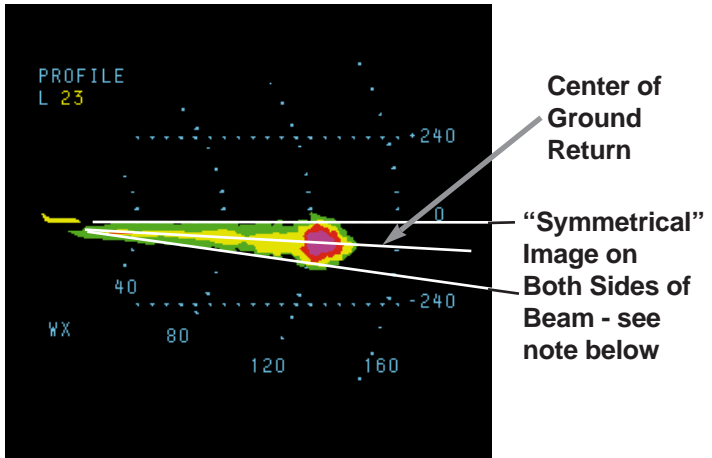

**Figure 5: Vertical Profile View
If you have completed the above operations in flight on a sunny day as suggested, you have experienced the simple operation of Vertical Profile and observed display of ground paint similar to that shown in Figure 5. The understanding of this very basic presentation is an important key in interpreting low level weather.
To improve your use and understanding of Vertical Profile, adjust the tilt angle to ground map a city or mountain. Use the TRK buttons to select the ground map target, and activate Vertical Profile by pressing the VP button. Depending on range, altitude and magnitude of the ground mapped target, the display should now resemble Figure 6. Note the differences between Figure 5 and 6. However, at the location of the ground mapped target the image is still symmetrical. The symmetrical display is key in distinguishing the differences between ground returns (ground, cities, and mountains) and low level weather.
Figures 5 through 10A illustrate normal horizontal scan and Vertical Profile scan examples of various returns from different weather patterns encountered during actual flights with the RDR 2000.
**Figure 5:** 40 nm range selected showing normal ground returns over that terrain. The aircraft is at 20,000 feet MSL. The flashlight like beam image provides a good representation of the radar beam characteristics. The center line of this image is the ground. As the beam is scanned over the ground the solid returns create a mirror image above and below the ground level providing reflectivity equal to the beam width and power level. As aircraft altitude and range increase, the ground returns will decay in much the same way as they increased from where the beam first intersected the ground.